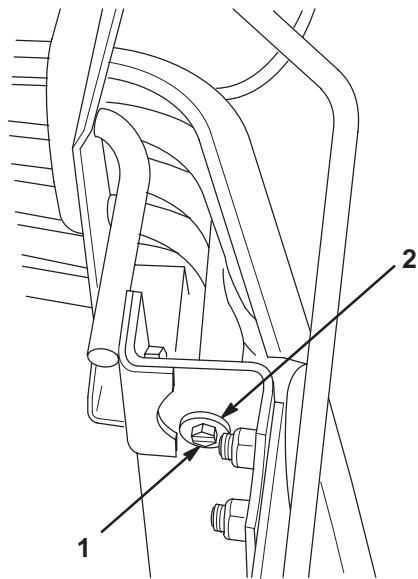

Figure 6
16. After servicing the battery, replace the front grill of the tractor and secure the grill with two #8 x .50" long grill screws and .75" O.D. grill washers in the upper two grill mounting holes (Fig. 6).